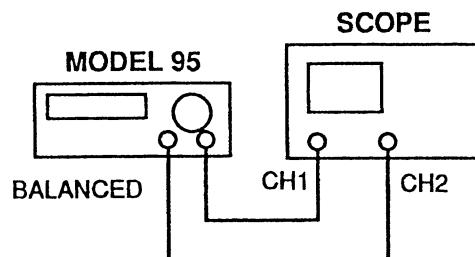

Figure 3-5. Balanced Output Setup
4. Connect the Model 95 and test equipment as shown in figure 3-5.